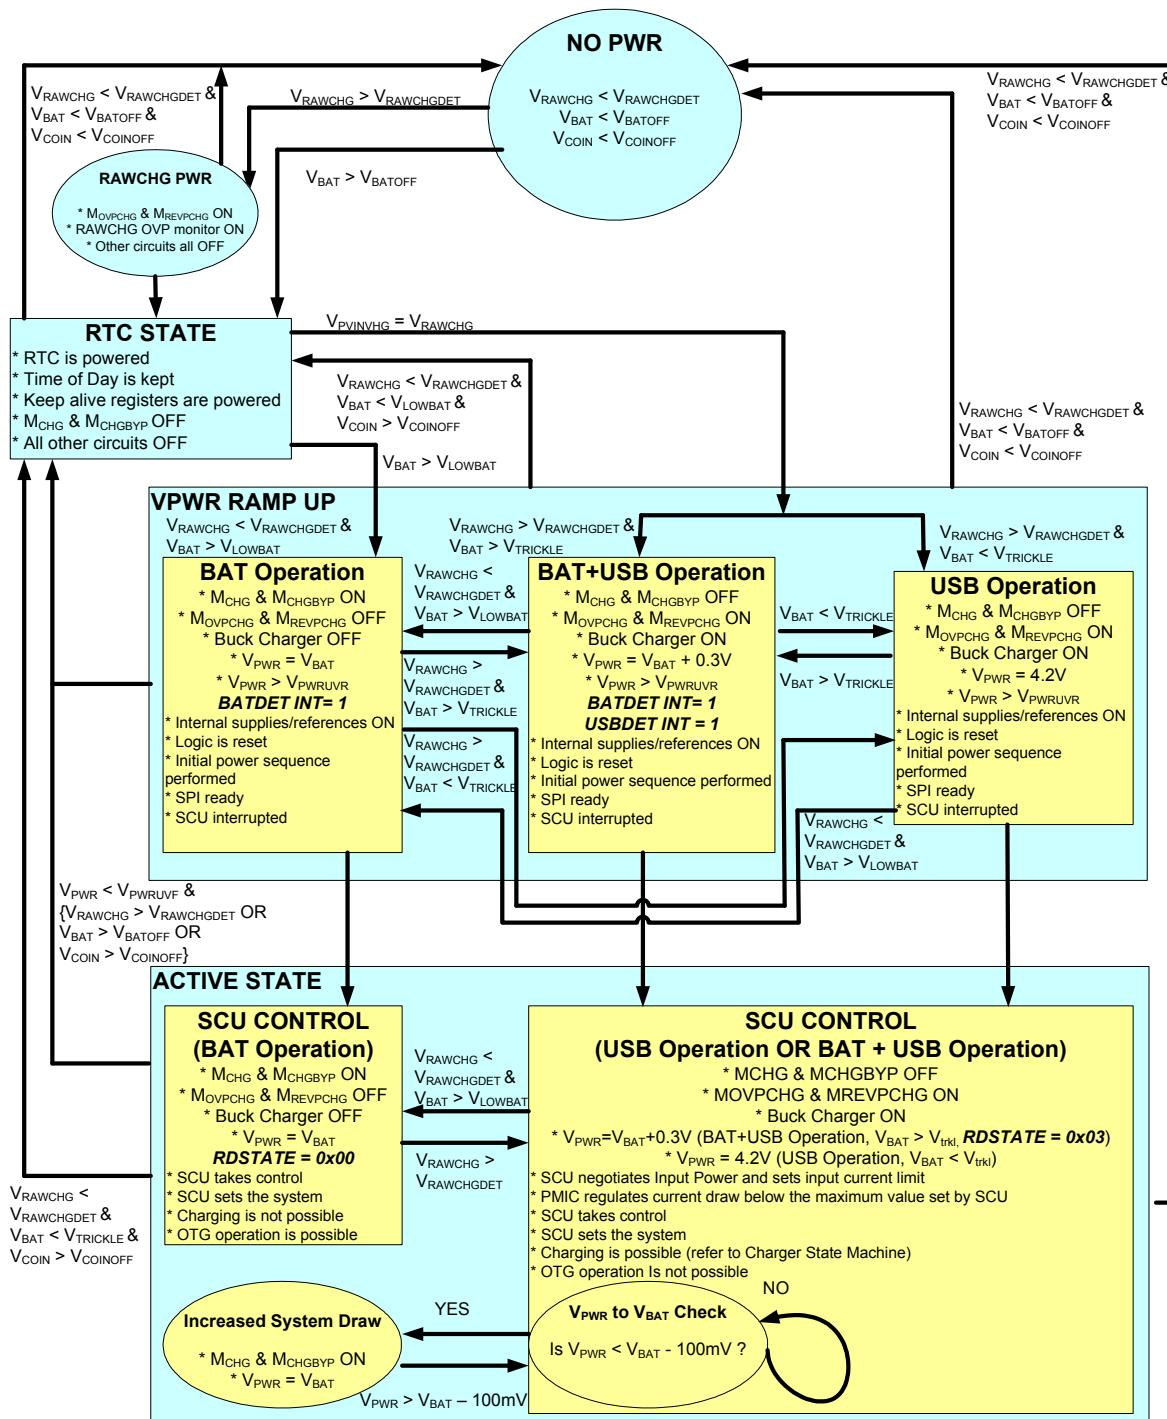

Figure 18. 900841 Power States
Figure 18 shows the flow of power, the different power states, and the conditions necessary to transition between
1.  $V_{RAWCHG} > V_{RAWCHGDET}$ : A charger input is valid and has been detected. Note that this is the same condition for an RTC state. This means that if this condition occurs, the device goes through the RTC state, then directly into a VPWR ramp up sequence to try and get to the active state (see Figure 18 for more details).
Reference Figure 18 and Battery Interface and Power Path Management.